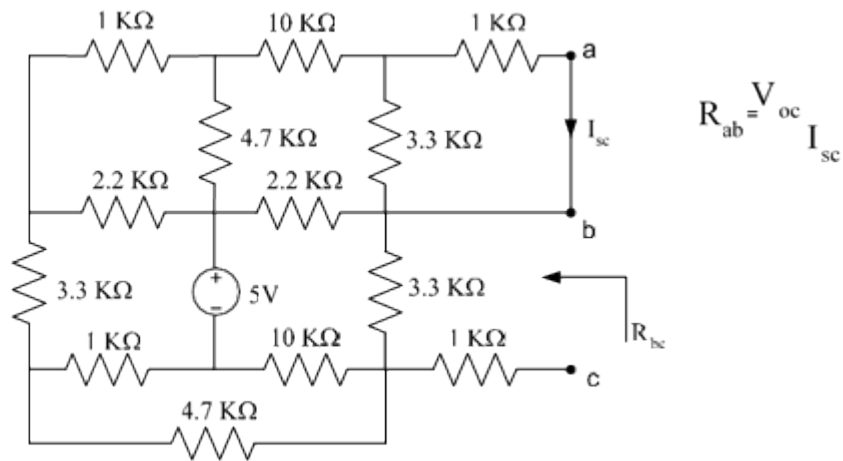

Figure 3.4: Resistance measurement using $\frac{V_{oc}}{I_{sc}}$ method.
3. Short-circuit the terminals a and b as shown in Figure 3.4 and measure the current flowing through these terminals. This is the short-circuit current, I_{sc} .